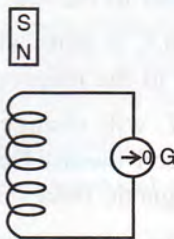

Fig. 10.38
1. Fig. 10.38 shows a coil AB connected to a centre zero galvanometer G and a magnet NS.